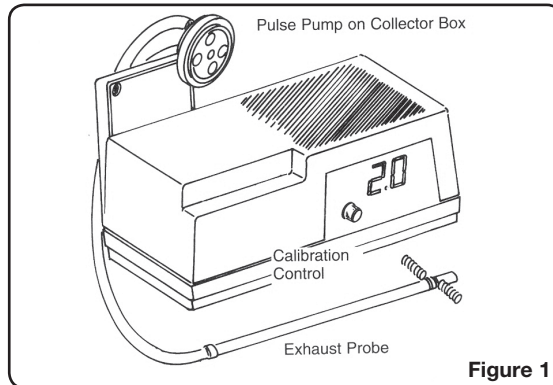

Figure 1
- Press the shortest pipe onto the lower port of the pulse pump/water trap as shown in the diagrams Figures 1 and 2. This is the automatic water drain.